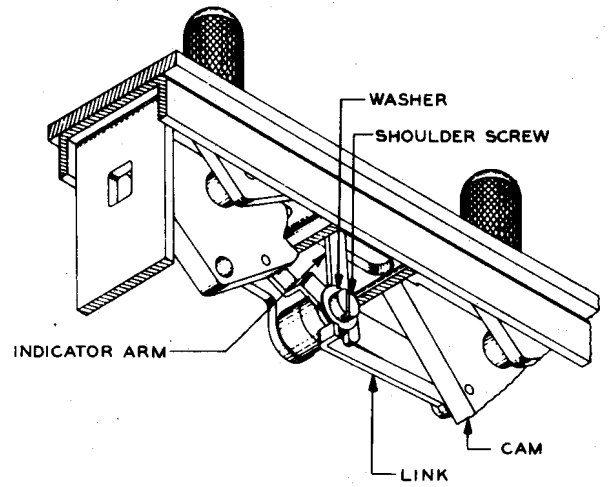
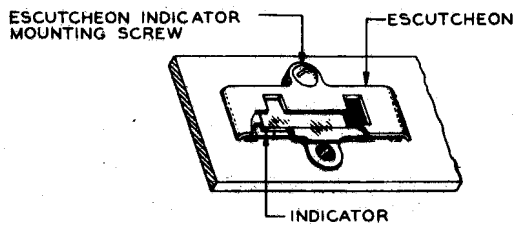

Fig. 55—Indicator Assembly Parts
Fig. 54—Indicator Parts
3.11 Remove the escutcheon indicator mounting screws shown in Fig. 54 and the indicator link mounting screw with the KS-6854 screwdriver. Remove the shoulder screw, as shown in Fig. 55, with the 3-inch C screwdriver, and lift out the indicator arm. If difficulty is encountered in removing the indicator arm, remove the keytop as covered in 3.10, loosen the key unit mounting screws with the 3-inch C screwdriver, and move the key unit sufficiently to permit the indicator arm to clear the adjacent key unit. Replace the parts in the reverse order, and tighten all screws securely.